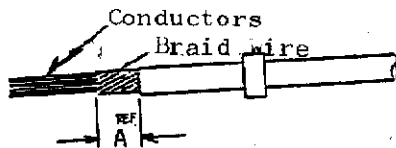

Fig. 5
4.3 After Removal of outer insulation, the braid wire end must be trimmed according to the length specified in Fig. 5.